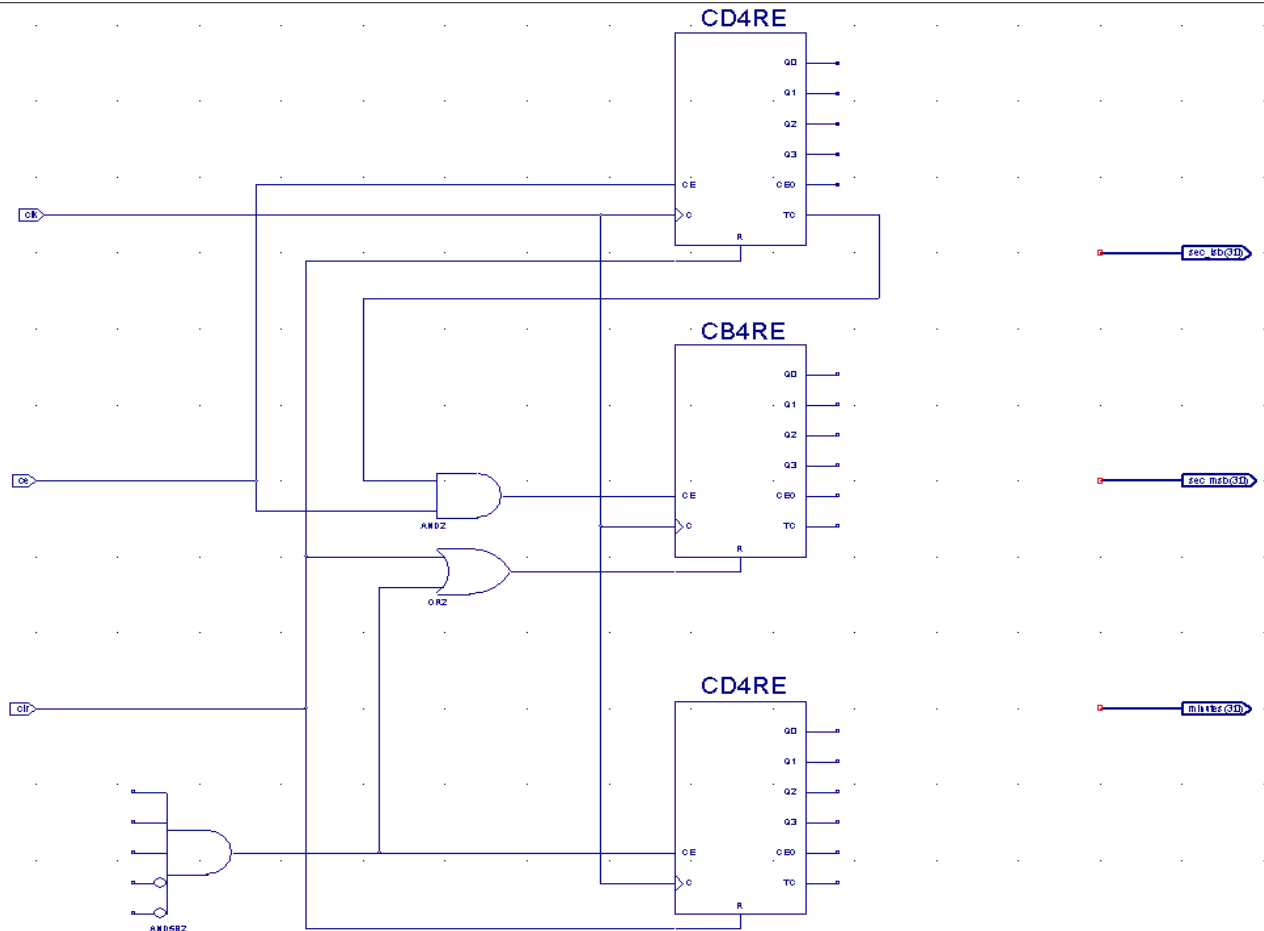

Figure 3-11: Partially Completed time\_cnt Schematic
4. Move the symbol outline to the location shown in Figure 3-11 and click the left mouse button to place the object.
- Place the second CD4CE symbol on the schematic by moving the cursor with attached symbol outline to the desired location, and clicking the left mouse button. See Figure 3-11.
Refer to Figure 3-11 for placement locations.
Draw the nets to connect the remaining components as shown in Figure 3-11. To specify the shape of the net: